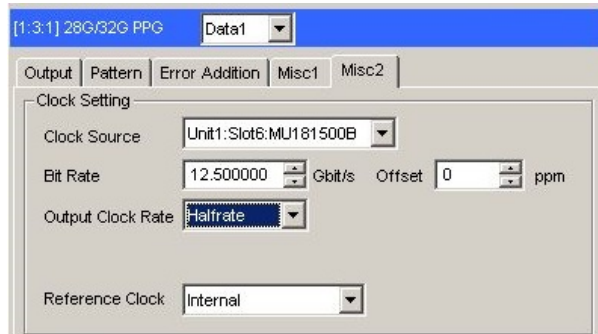

Figure E.5-2 Output Clock Rate Setting on the Misc2 Tab of MU183020A
- 3, 4. Use coaxial cables (applicable part, 0.8 m, K connector) to connect MU183020A's **Data Output1** and **Data Output2** connectors respectively with the **Data Input** connector of each MP1825B No.1 and 2. Then, on the **Misc2** tab of MU183020A, select **Halfrate** in the **Output Clock Rate** box. (Figure E.5-2)